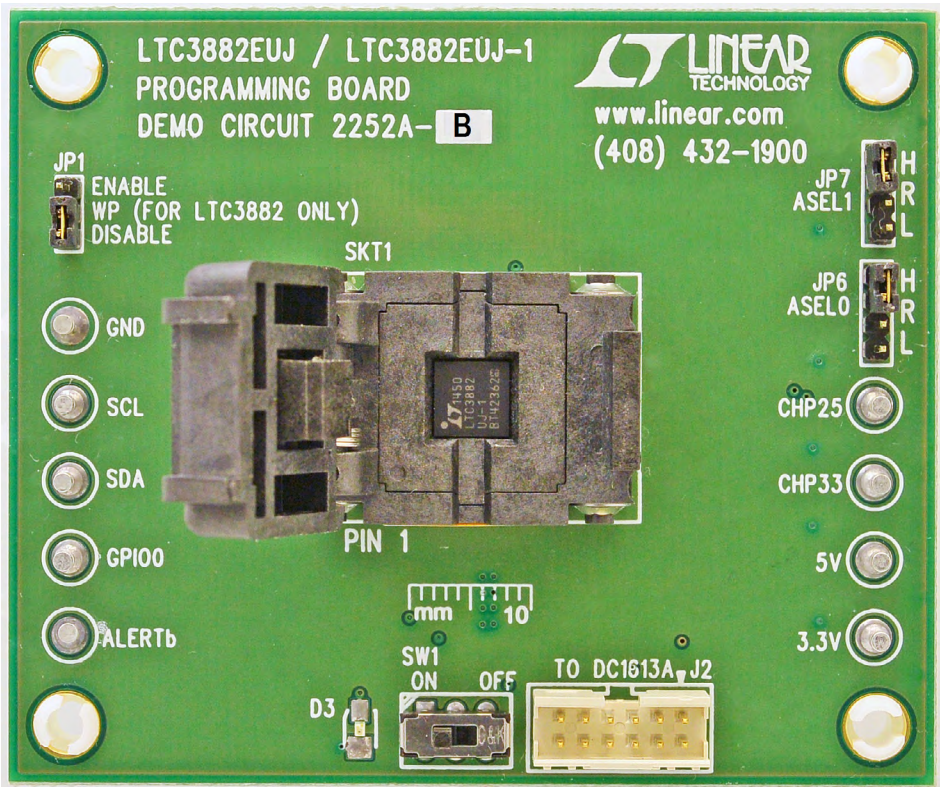

Figure 2. Open Shell. Verify IC Installed
2. Open the lid of the socket SKT1. Verify there is an IC inside and in the correct direction (White dot on IC matches with PIN 1 on PCB silkscreen). See Figure 2.